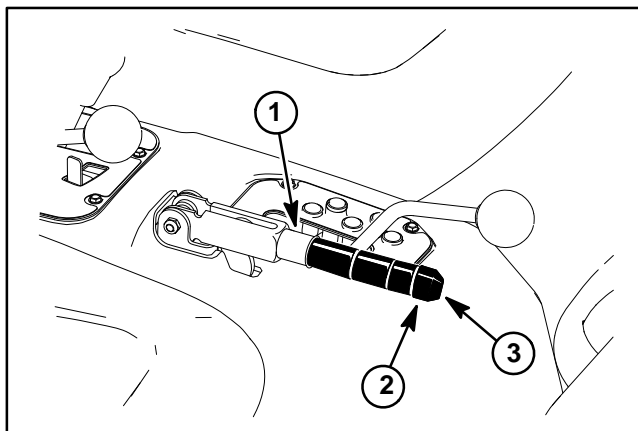

Figure 18
2. Remove brake lever handle from parking brake lever. Loosen set screw in parking brake lever knob (Fig. 18). Turn knob on parking brake lever counter-clockwise all the way to loosen brake cable adjustment.